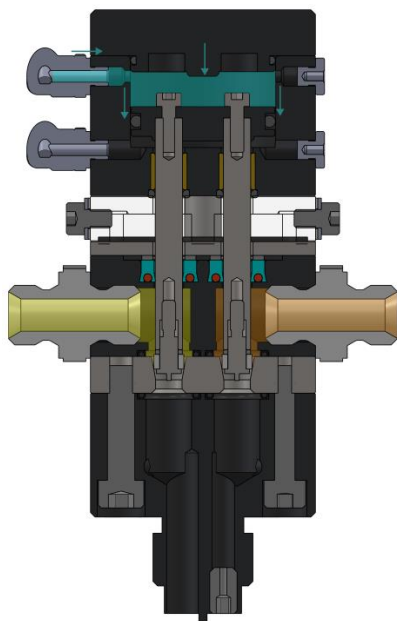

Figure 02 – Resting phase
- The fluids are ready to exit into their special chambers (Figure 02);
- When you want to stop dosing, remove the dosing command; then, the valve closes the pins and the volumetric dispensing, including the volumetric system, stops (Figure 02).